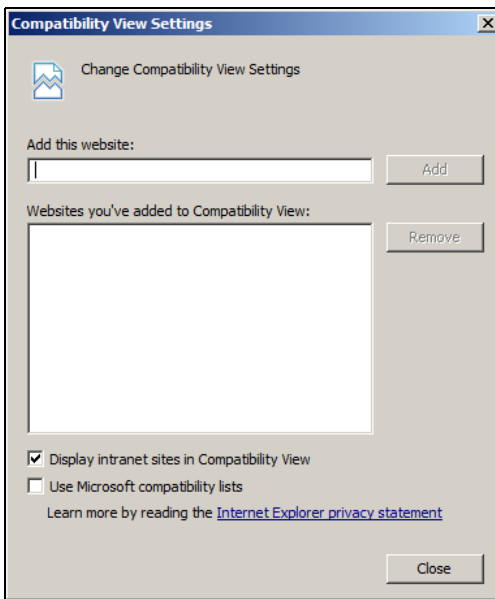

Figure 11. Compatibility View Settings Window
2. In the Menu bar select **Tools > Compatibility View Settings**. The Compatibility View Settings window opens (see Figure 11).